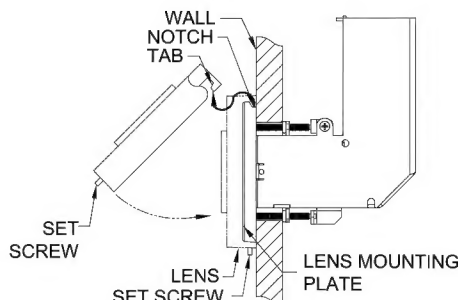

FIG. 7
10. Assemble LENS to LENS MOUNTING PLATE by angling LENS upward and hook TAB of LENS into NOTCH of LENS MOUNTING PLATE. Once LENS is set into NOTCH of LENS MOUNTING PLATE rotate LENS down so that it sits flush against WALL. Secure in position by tightening SET SCREW (FIG. 7).